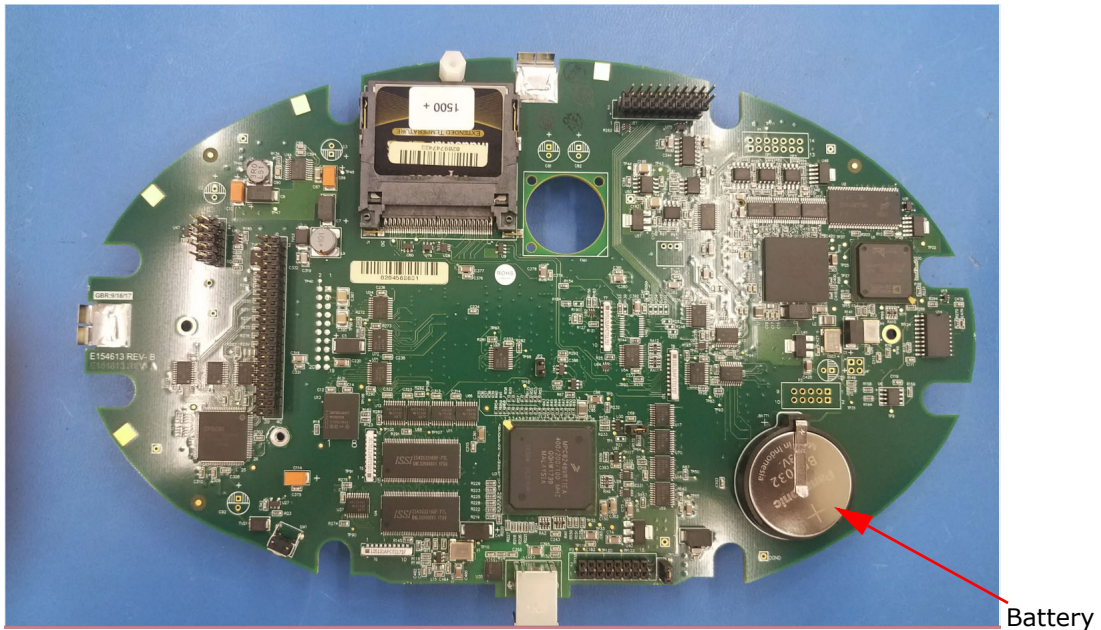

Figure 3-13: Location of Battery
7. Turn the digital board so that the battery is facing you - see Figure 3-13